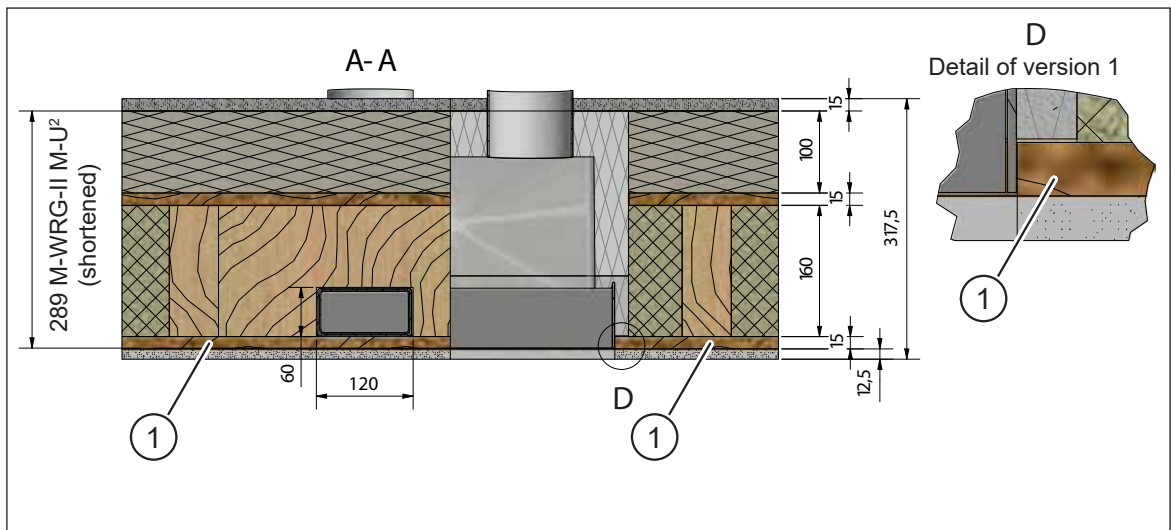

Fig. 55: Inner OSB board as the vapour barrier and airtight layer
The inner OSB board (item 1 in Fig. 55) is the vapour barrier and airtight layer. The OSB board must be connected to the wall box using a suitable and approved adhesive tape, e.g. Rissan[®] from SIGA.